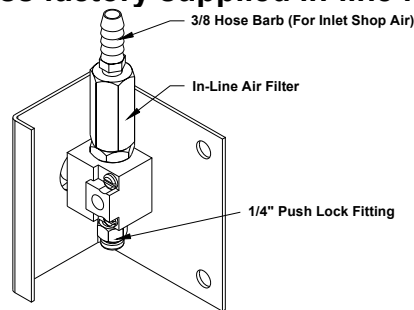

Fig. 8
20. **The shop air supply must be clean, dry, lubricated, and regulated to 90-120 psi.** The air supply must run through a Filter/Regulator/Lubricator (FLR) within 30 feet of factory assembled air valve. **Failure to provide clean, dry lubricated and pressure regulated air will void warranty on pneumatic components.** Push ¼" airline through the PVC chase beginning at the power unit. Connect the airline to the appropriate push lock fittings at each end. Refer to **Fig. 8**.